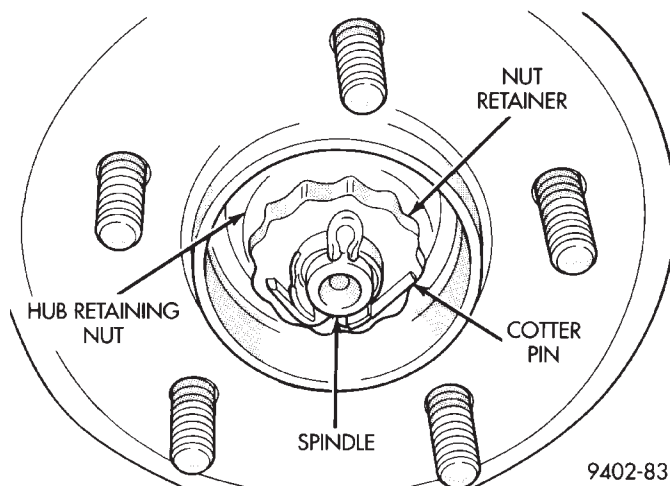

Fig. 143 Hub And Bearing Retaining Nut
(5) Remove cotter pin, nut retainer, wave washer and the nut and washer attaching the hub/bearing assembly to the spindle (Fig. 143).
(6) Remove parking brake shoe assemblies from the rear disc brake adapter. See Park Brake Shoes
(7) Install upper center console cover assembly back in vehicle. Refer to group 23 Body in this service manual for required procedure to install upper center console.
(8) Install shift knob on floor shifter (if equipped). Shift knob is installed by pushing shift knob down shift shaft until fully bottomed. Then install and tighten 3/32 in. allen head set screw located on drivers side of shift knob.
(9) Raise vehicle.
(10) Install parking brake shoe assemblies on the rear disc brake adapter. See Park Brake Shoes With Rear Disc Brakes in the Removal And Installation section in this group of the service manual for the installation procedure.
(11) Adjust the park brake shoes to an outside diameter of 171.5 mm (6.75 in.).
(12) Install hub/bearing assembly on spindle.
(13) Install the washer and retaining nut for the hub/bearing assembly (Fig. 143). Tighten the retaining nut to a torque of 168 N·m (124 ft. lbs.).
(14) Install wave washer, nut retainer and cotter pin on rear spindle (Fig. 143).
(15) Install hub/bearing dust cap.
(16) Install rear rotor on the rear hub assembly. Install rear disc brake caliper assembly on adapter.
(17) Install rear tire and wheel assembly on vehicle.